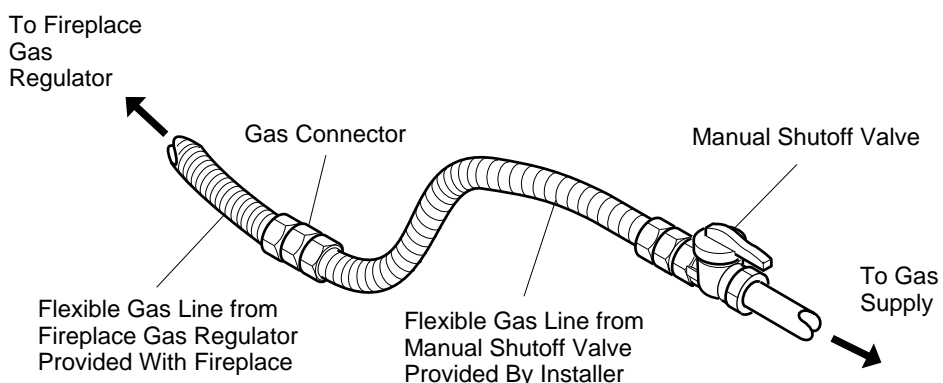

Figure 24 - Attaching Flexible Gas Lines Together
4. Apply pipe joint sealant lightly to male threads of gas connector attached to flexible gas line (see Figure 24). Connect flexible gas line to flexible gas line attached to gas regulator of fireplace (see Figure 24).